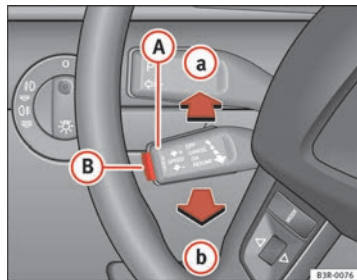

Fig. 143 Controls for the cruise control system
- press the lever (A) ⇒ fig. 143 to position (a) (click stop not engaged).